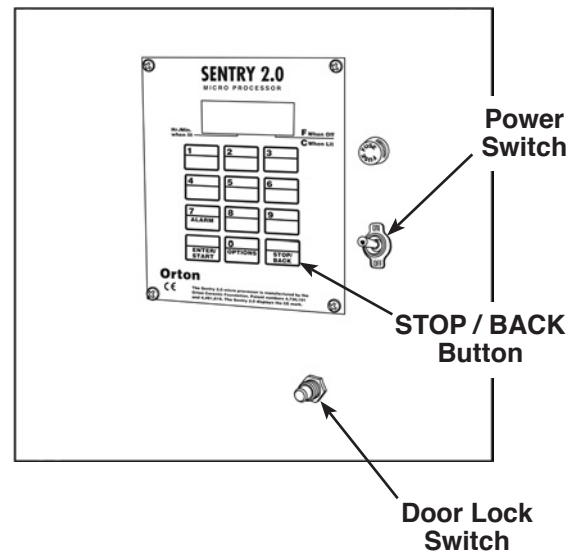

Figure 7
1. If the chamber door must be opened, and the internal temperature shown on the control panel is less than 93°C (200°F), press **STOP / BACK**. Press the door lock switch on the control panel to open the door. See Fig. 7.